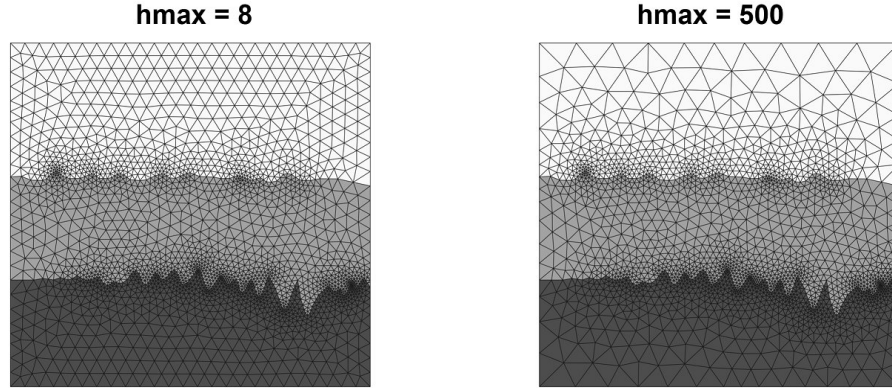

Figure 10: Effect of *Max Mesh-size*
- *Max Mesh-size*: Maximum mesh edge lengths. This is an approximate upper bound on the mesh edge lengths (Figure 10). Type: Float. Range:  $> 0$ .